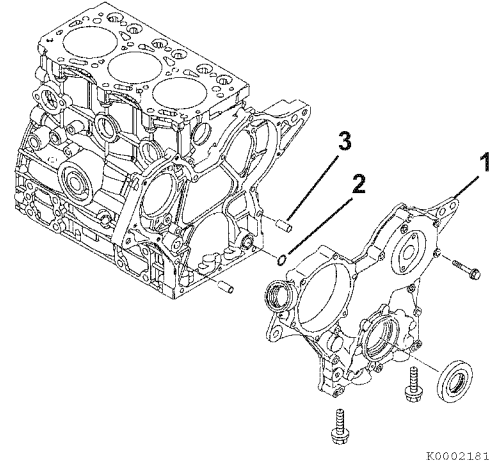

Figure 6-101
1. Apply a continuous bead of ThreeBond Liquid Gasket No. 1212F, YANMAR Part No. 977770-1212F to the mounting area of the gear case cover (**Figure 6-101, (1)**). Be sure to circle the bolt holes.
2. Reinstall the dowels (**Figure 6-101, (3)**) and a new O-ring (**Figure 6-101, (2)**).